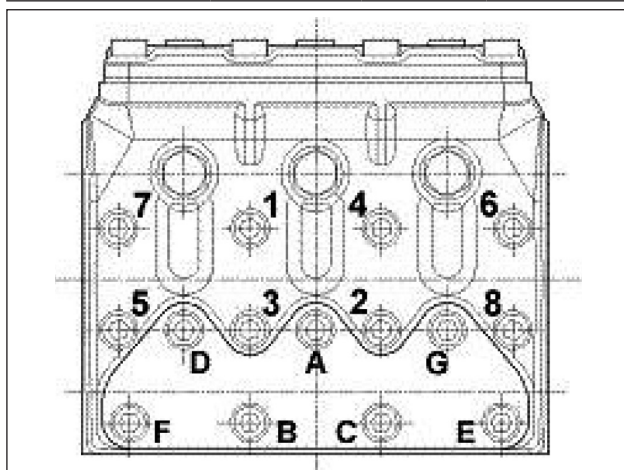

Fig. 24
- ** The head fixing screws exploded view pos. 39 must be tightened with a torque wrench, lubricating the threaded shank, respecting the order shown in the diagram in Fig. 24.
- *** The valve cover fixing screws exploded view pos. 40 must be tightened with a torque wrench, lubricating the threaded shank, respecting the order shown in the diagram in Fig. 24.